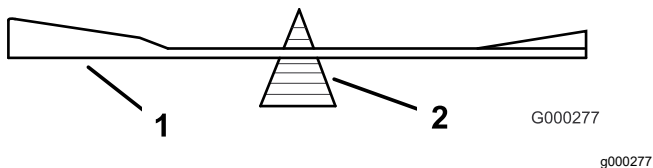

Figure 77
2. Check the balance of the blade by putting it on a blade balancer (Figure 77).